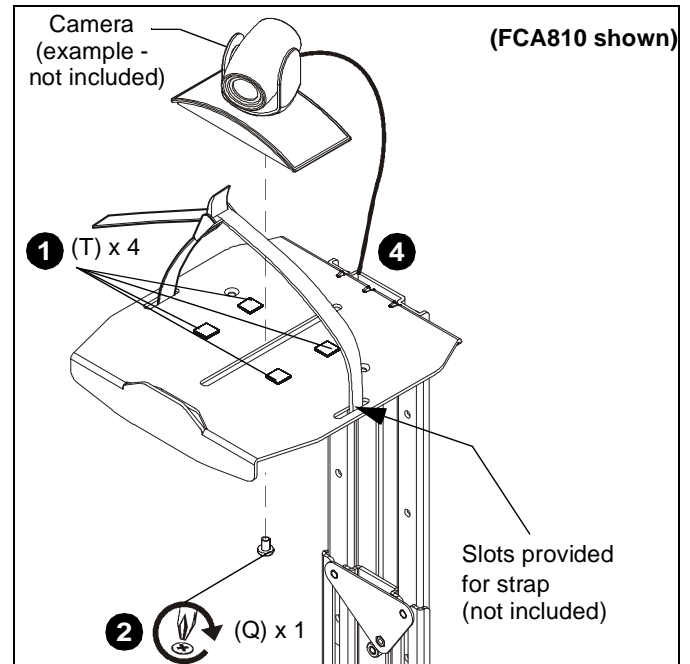
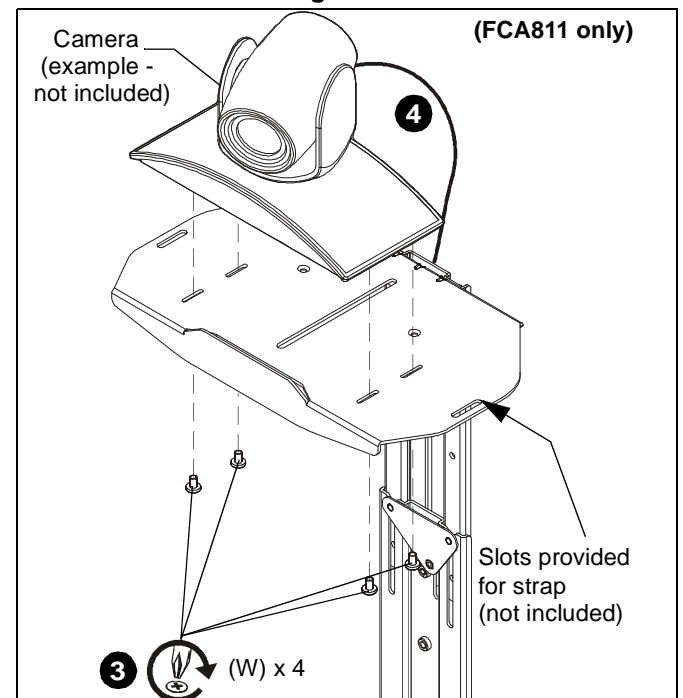

Figure 27
Figure 28
NOTE: OPTIONAL: Slots are provided in shelf for strap (not included) to hold camera in place. (See Figure 27)
2. (Single Screw option) Install 1/4-20 x 3/8" Phillips pan machine screw (Q) through mounting slot on shelf and into hole on bottom of camera. (See Figure 27)
3. (Multiple screw option - FCA811 only) Install four #4-48 x 1/4" Phillips pan machine screws (W) through outside mounting slots and into holes on bottom of camera. (See Figure 28)
4. Route cable from camera towards back of shelf and down behind the FCA810/811. (See Figure 27) and (See Figure 28)